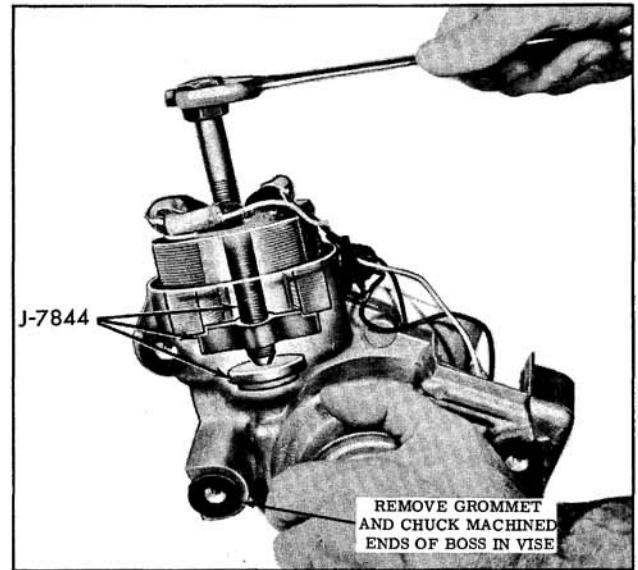

Fig. 13-183 Removing Field Coil
- d. Install Field Puller J-7844 in motor housing as shown in Fig. 13-183. Make certain puller screw base plate is installed flat side up and puller flanges straddle the field lamina.